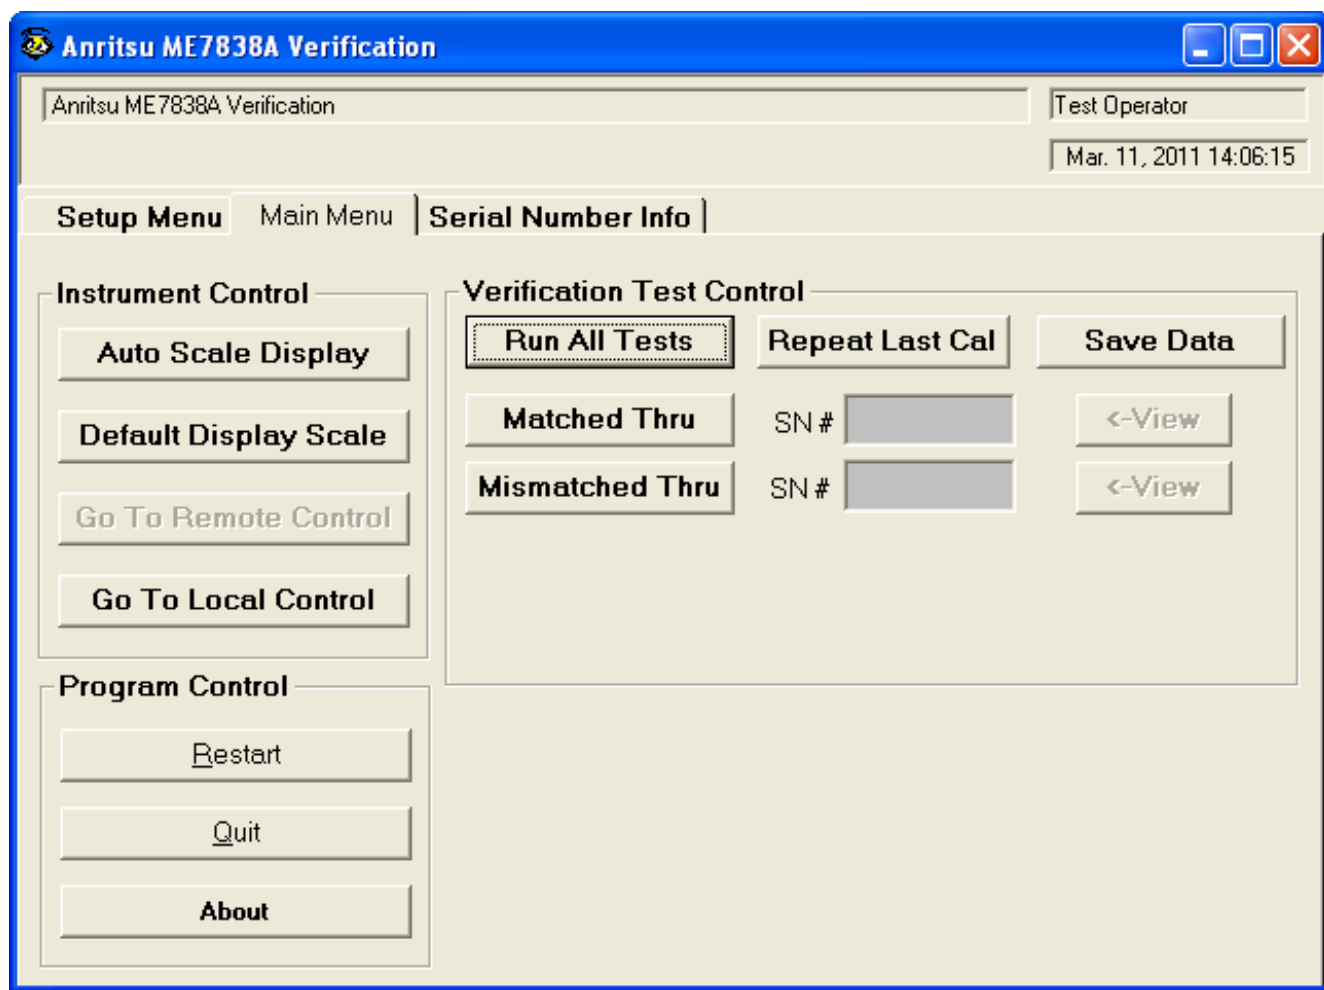

Figure 2-36. ME7838A Application Interface – Main Menu Tab
- The Main Menu tab display is described in the section immediately following and is shown in Figure 2-36, “ME7838A Application Interface – Main Menu Tab” on page 2-25
This command button runs both the Matched Thru and Mismatched Thru tests. Program execution starts with Section 2-11 “Matched Thru Tests” on page 2-30 and then continues with Section 2-12 “Mismatched Thru Tests” on page 2-33. When both tests are completed, program execution returns to the Main Menu tab shown in Figure 2-36, “ME7838A Application Interface – Main Menu Tab” on page 2-25.
This command button re-calibrates the VNA according to the CURRENT calibration. This provides a way to recalibrate the VNA without having to reset the program parameters in case the original calibration was flawed for some reason. When the calibration sequence is complete, program execution continues to the Main Menu tab shown previously in Figure 2-36, “ME7838A Application Interface – Main Menu Tab” on page 2-25.
This command button runs only the Mismatched Thru tests. If selected, program execution continues in Section 2-12 “Mismatched Thru Tests” on page 2-33. When the tests are completed, the program returns to the Main Menu tab shown in Figure 2-36, “ME7838A Application Interface – Main Menu Tab” on page 2-25.